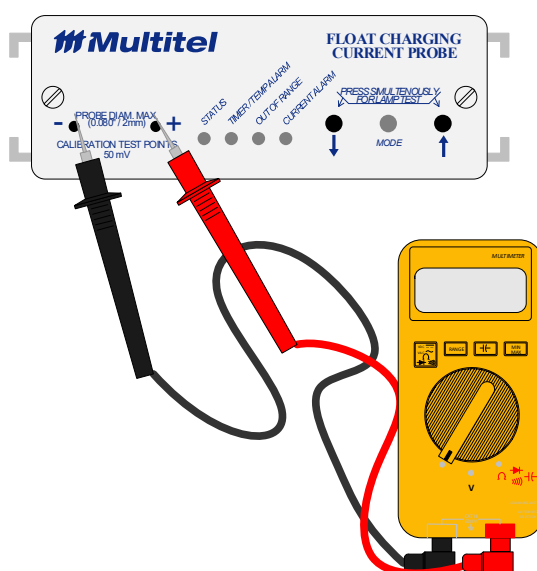

Figure 6: Open Circuit Value with DVM
1. Use a DVM capable of reading mV down to 0.1mV. Insert the DVM test probe in the calibration test point located on the FCCP front panel (see Figure 6 below).
8. Press the MODE button six (6) times consecutively to exit the programming mode. Note that all the LEDs should turn off.